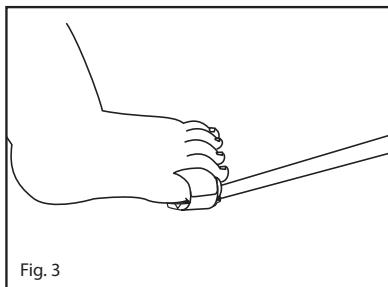
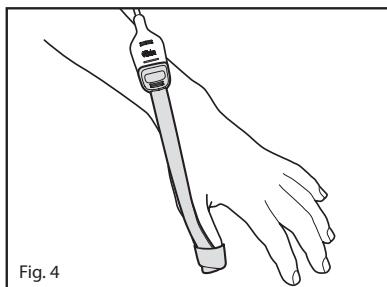

Fig. 3
Fig. 4
4. Refer to **Fig. 3 (toe)** or **Fig. 4 (thumb)**. Check the sensor to verify correct positioning and reposition if necessary. Complete coverage of the detector window is needed to ensure accurate data.